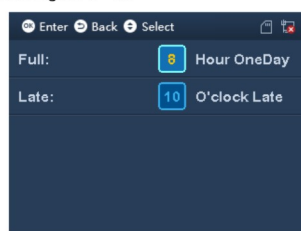

Figure 2-12
Select Flexible, click ③. See Figure 2-12.